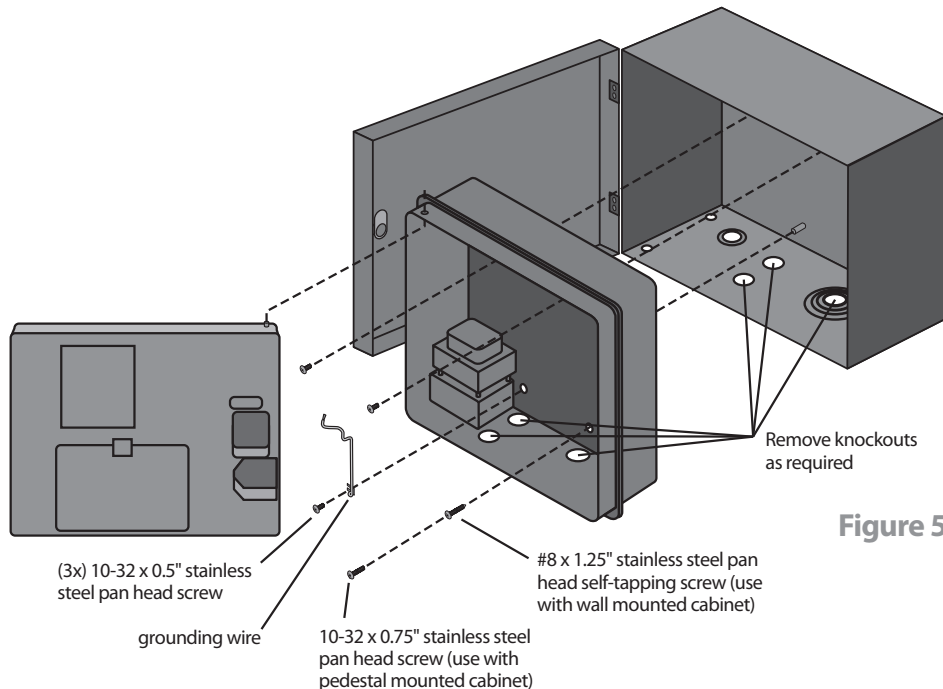

Figure 5
- Place the controller into the cabinet and use three 10-32 x 1/2" (1.27 cm) pan head screws (included) to fasten the controller into the cabinet as shown in Figure 5. Note that the lower left screw also fastens the ground wire spade terminal to the metal cabinet. Use the additional 10-32 x 3/4" (1.9 cm) pan head screw (included) to fasten the lower right controller housing mounting hole to the cabinet (see Figure 5).